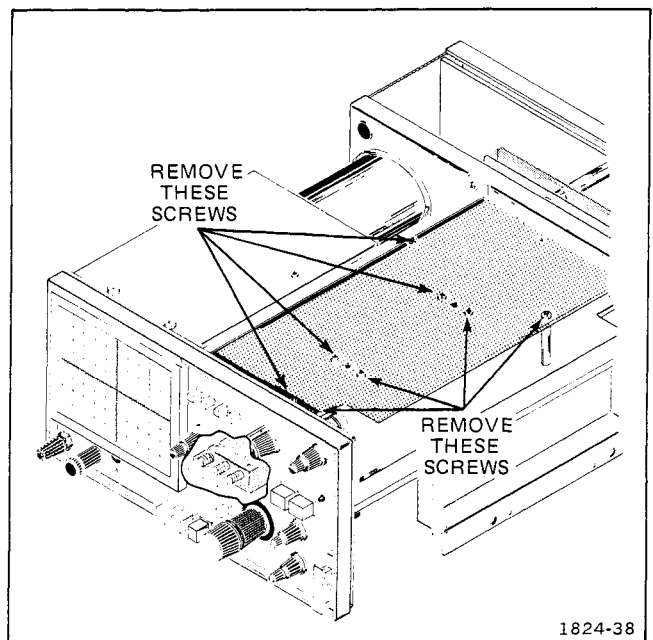

Fig. 4-10. Location of screws holding Storage circuit board to module.
a. Remove the 8 screws (see Fig. 4-10) holding the Storage circuit board to the module.